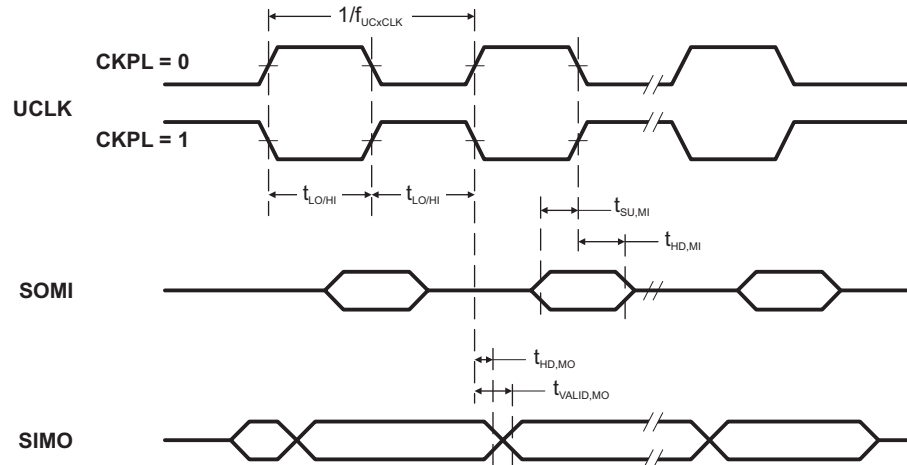
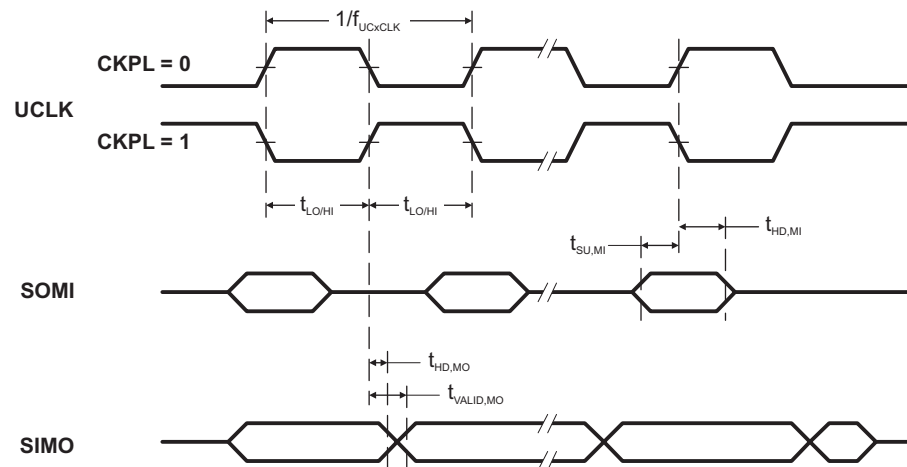

Figure 5-14. SPI Master Mode, CKPH = 0
Figure 5-15. SPI Master Mode, CKPH = 1
(see Figure 5-14 and Figure 5-15)
(2) Specifies the time to drive the next valid data to the SIMO output after the output changing UCLK clock edge. See the timing diagrams in Figure 5-14 and Figure 5-15.
(3) Specifies how long data on the SIMO output is valid after the output changing UCLK clock edge. Negative values indicate that the data on the SIMO output can become invalid before the output changing clock edge observed on UCLK. See the timing diagrams in Figure 5-14 and Figure 5-15.